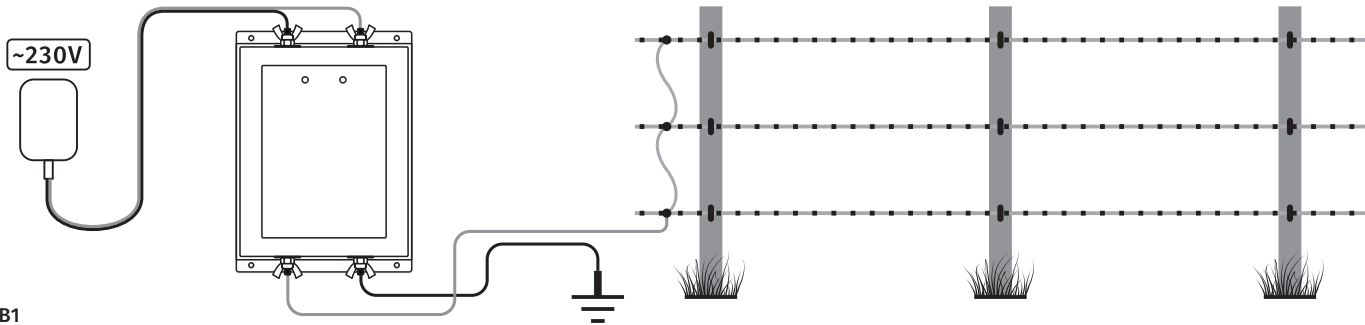

Fig. B1
The device may be powered in three ways, depending on the possibilities (see fig. B1 and B2):
1. Powering from the 230 V network (fig. B1)
The device must be installed in a location protected from moisture. The ideal mounting position is vertical (see Fig. B1, B2), fixed to a wall or wooden post. However, it also functions properly in a horizontal position, such as on a table or shelf.
L'alimentazione del dispositivo/apparecchio si può effettuare, a seconda delle possibilità, in tre modi (vedi figure B1, B2):
1. Alimentazione con un adattatore di rete 230/12 V (fig. B1)